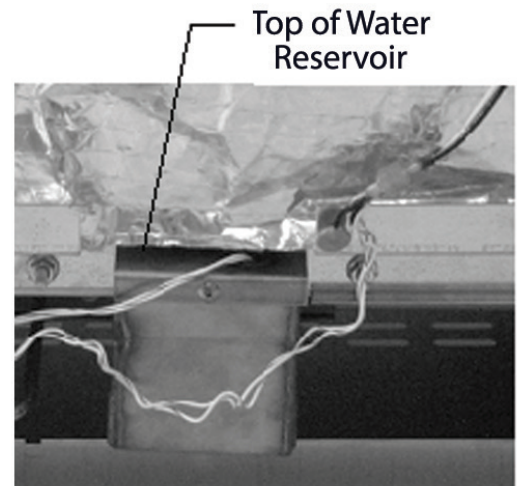

Figure 4
19. Remove top of water reservoir to expose float (figure 4).